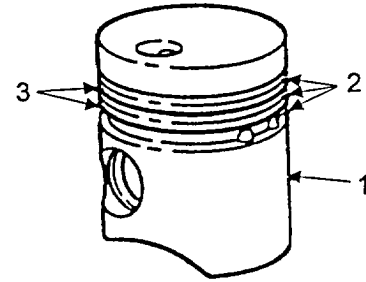

FIGURE 5-41. PISTON GROOVES
- b. Examine piston (Figure 5-41, Item 1) for scoring, fretting, pitting, cracks (especially on the interior surfaces), damaged ring grooves, or for indications of overheating Repair slight scoring according to repair procedures. Replace damaged piston.